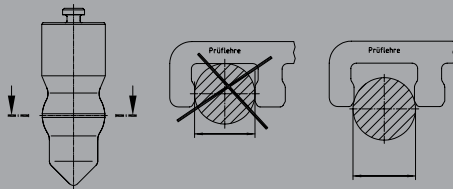

Fig. 7
- Diameter of crowned part may not less than **46 mm** otherwise new coupling pin must be used (see Fig. 7).